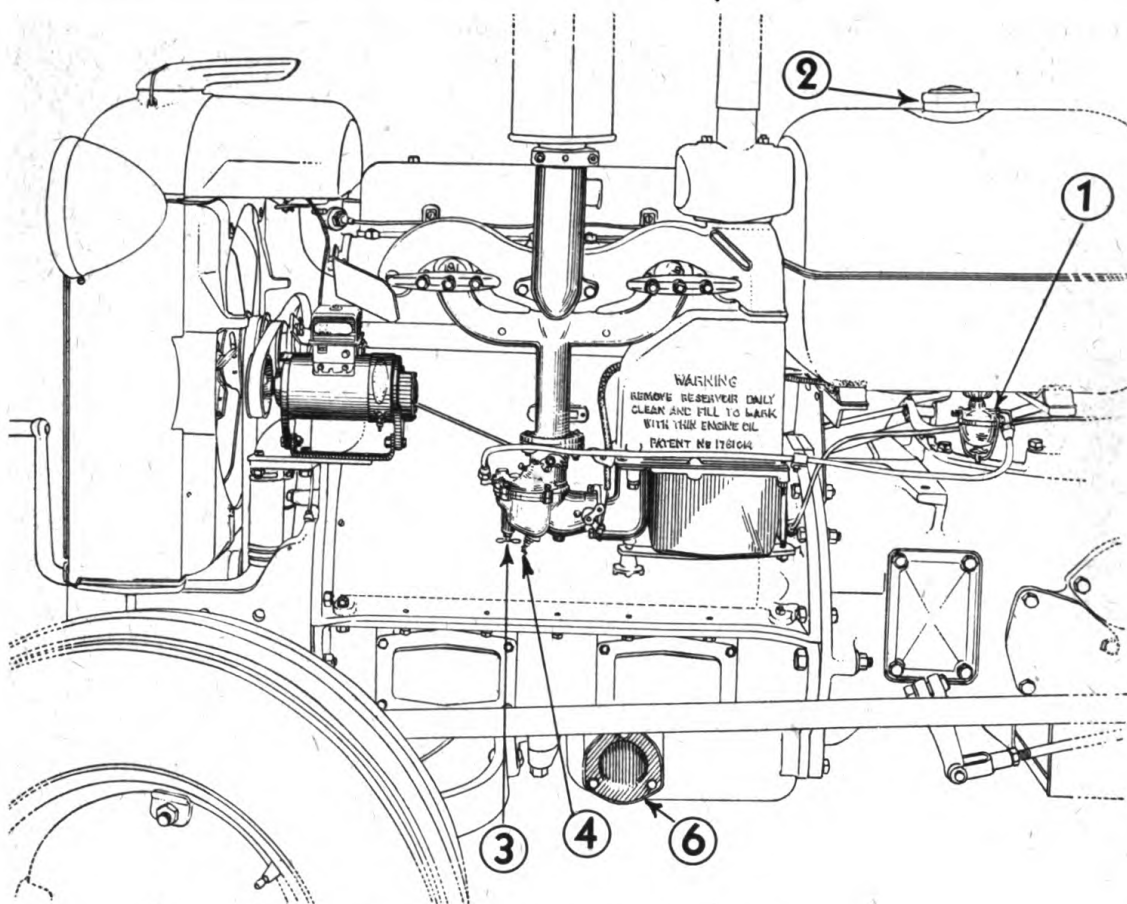

Fig. 1. Left Hand Side of Engine
8. Shut off the valve 1, Fig. 1 in the filter under the gas tank, and fill the fuel tank with gasoline (Capacity $19\frac{1}{4}$ gals.) adding one pint of light oil to each five gallons of fuel, while the tractor is new.
9. Make sure that air vent in cap of fuel tank 2, Fig. 1 is open.
10. Open the drain cock 3, Fig. 1 at bottom of the carburetor and turn on the gasoline. Allow enough gasoline to run through to clean out the fuel line and carburetor bowl, then close the drain cock.
- A. Turn the carburetor main jet needle valve 4, Fig. 1, $1\frac{1}{2}$ turns counter-clockwise from closed position.
F. Set throttle lever so that engine runs about half normal speed and adjust carburetor needle valve 4, Fig. 1 until engine runs "free" and snappy.